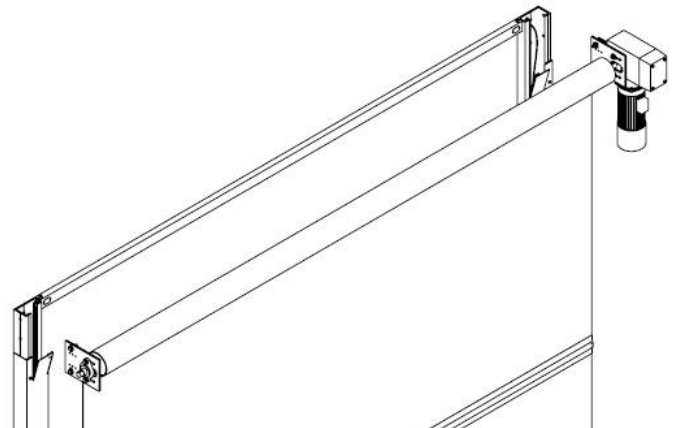

Figure 12
17. Before lifting the top roll assembly into position mount the non-drive side bearing plate assembly on the top roll non-drive side shaft (Figure 12).